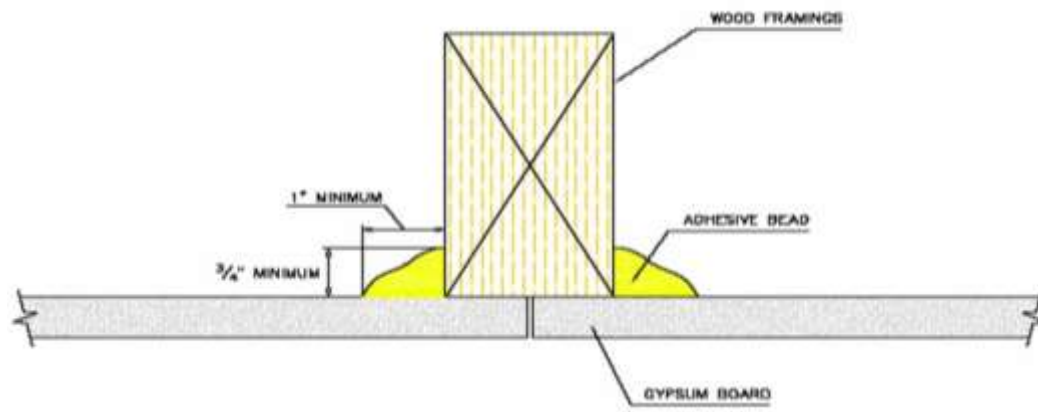

FIGURE 1—APPLICATION OF VORAMER MB 3099 POLYOL TWO-PART POLYURETHANE FOAM ADHESIVE
Voramer MB 3099 adhesive must be used on wood framing with a maximum spacing of 16 inches (406 mm) on center for walls and 24 inches (610 mm) on center for ceiling applications. The beads produced must be sized per Figure 1 and Table 1, and a bead must not be greater than 1½ inch (38.1 mm) in size. The adhesive beads are applied along one side of field framing and along both sides at gypsum/sheathing seams.
- 6.1 Report of Figure 1 testing in accordance with ASTM C557 testing.